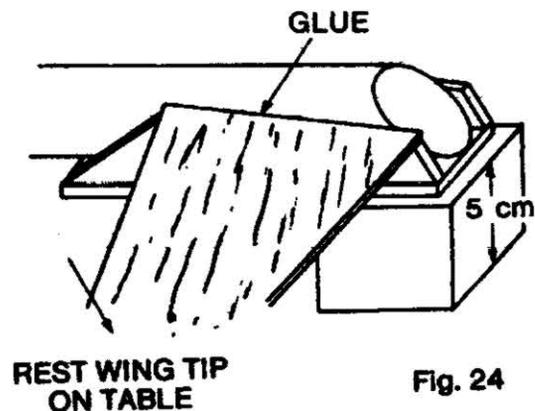

Fig. 24
- F** Spread (white) glue along the root edge of one of the Wings, and stick it to the Body (it should rest on the Wing Mount Assembly) as shown in Fig. 24. Repeat for the other Wing. Allow to dry.